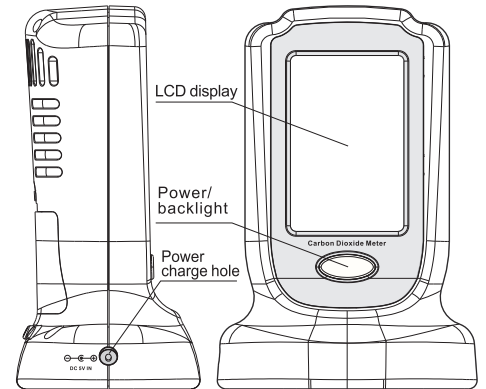

Figure 2
- (1) Restart
- (2) Check whether the power adapter is original. If the adapter is of no use, please contact after sales.
V. Name of each component (as shown in Figure 2)